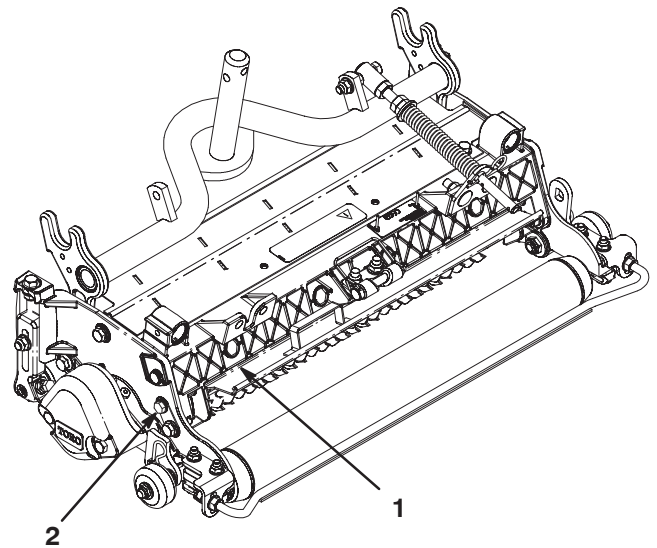

Figure 4
1. Loosen the capscrews on the pivot of the grass shield (Fig. 4).
2. Rotate the grass shield to the desired setting and tighten the capscrews (Fig. 4).